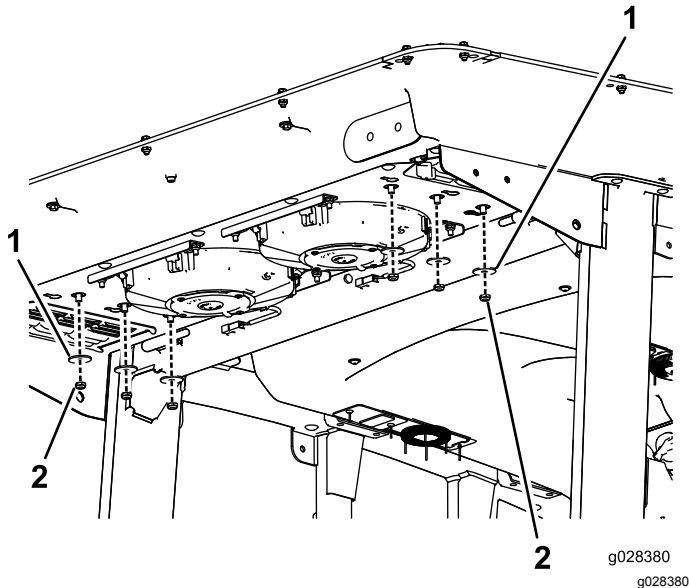

Figure 71
2. Remove the 6 nuts and washers from the bottom of the rear of the cab (Figure 71).